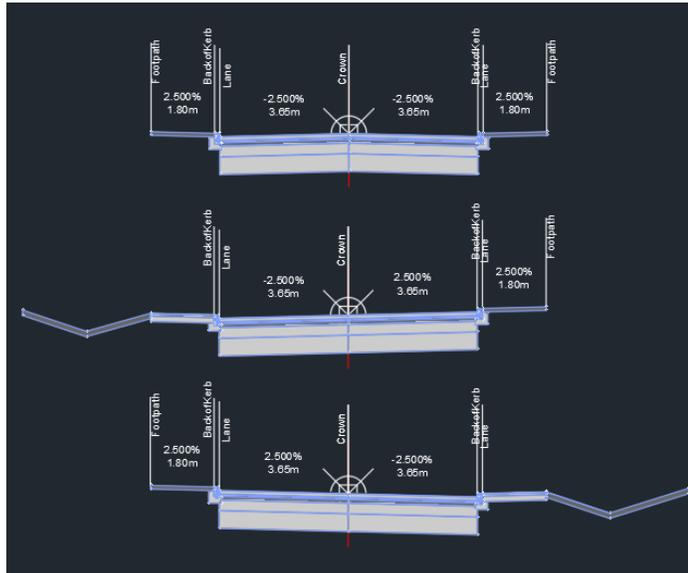

Figure 12 - 3 Assemblies needed to balance and left/right crossfall
- **Controlling crossfall and superelevation application** – Consider a residential development project where you may have a combination of carriageway with balanced crossfall, and full width crossfall to the left or right to allow draining in to swales that may be intermittent along the length of the road. Typically this probably would have been done with 3 different assemblies (see Figure 12) and the superelevation tool to control where it switches between the section types. However, the superelevation tool has limitations, in that it doesn't like working without curves in the alignment and are quite complex to change manually. So what do you do if you want to switch crossfall from one type to another on a straight?